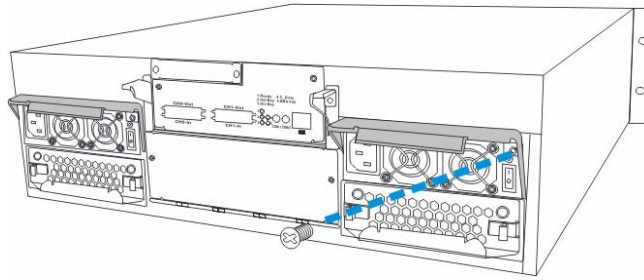

Fig. 6.16 Fastening the PSU Retention Screw
- It is recommended that the replacement procedure is completed in less than five (5) minutes to prevent the subsystem from overheating.
- Insert the new PSU module into the subsystem. Make sure the ejection handle is in its down position so that the saddle notches on the lower edges of the handle can lock on to the edge metal brackets along the chassis inner walls. Push the PSU into the slot and pull the handle upward to secure the module. (See *Figure 6.16*)
- Secure the PSU to the subsystem by inserting the retention screw to the PSU. (See *Figure 6.16*)